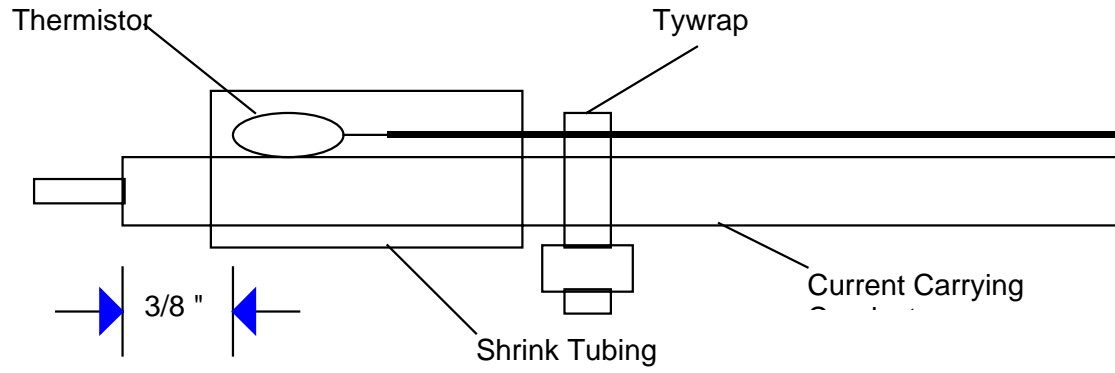

Figure 3
12. Position one of the sensors 3/8" from the stripped edge of the hot black wire of the AC cable (see figure 2) and hold it there. Slide the shrink tubing supplied in the Hardware Kit over the sensor and the wire. Use a heat gun to shrink the tubing evenly over the sensor and wire (see figure 3). The sensor assembly should be firmly fastened to the wire. Use a tywrap to secure the wires of the sensor to the wire to prevent breaking the sensor wires while handling the AC wires.